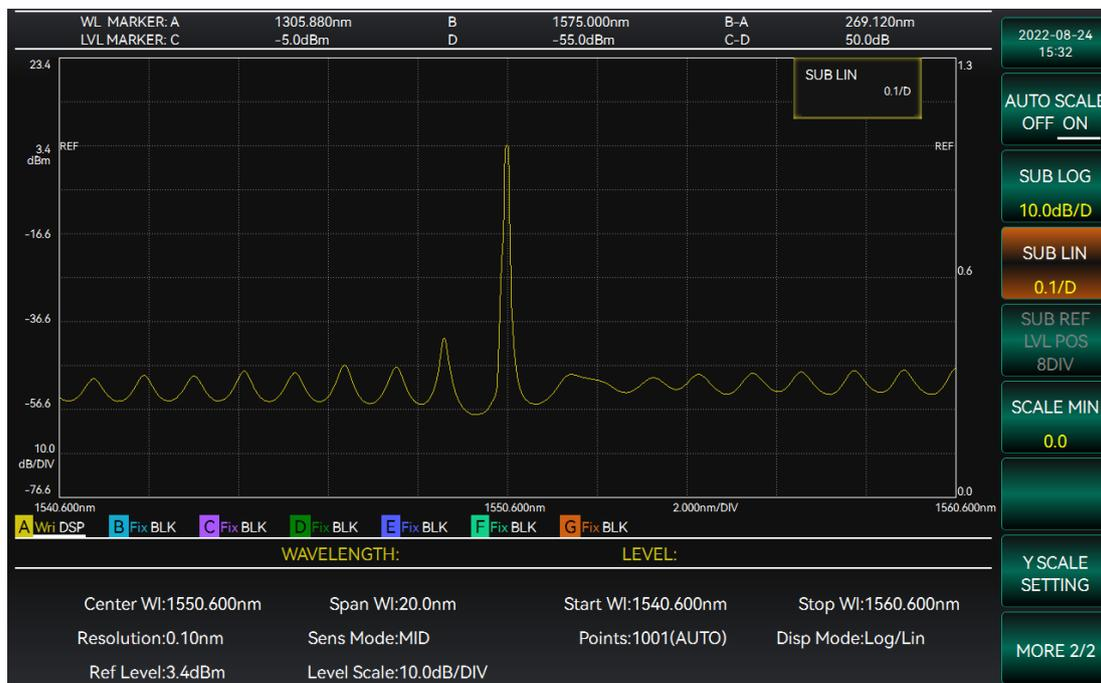

Figure 3-24 Setting sub-reference linear display interface
2. Select [LinDisp] and enter the linear scale value via the knob or number keys to complete the setting. The operation interface is shown in Figure 3-24.